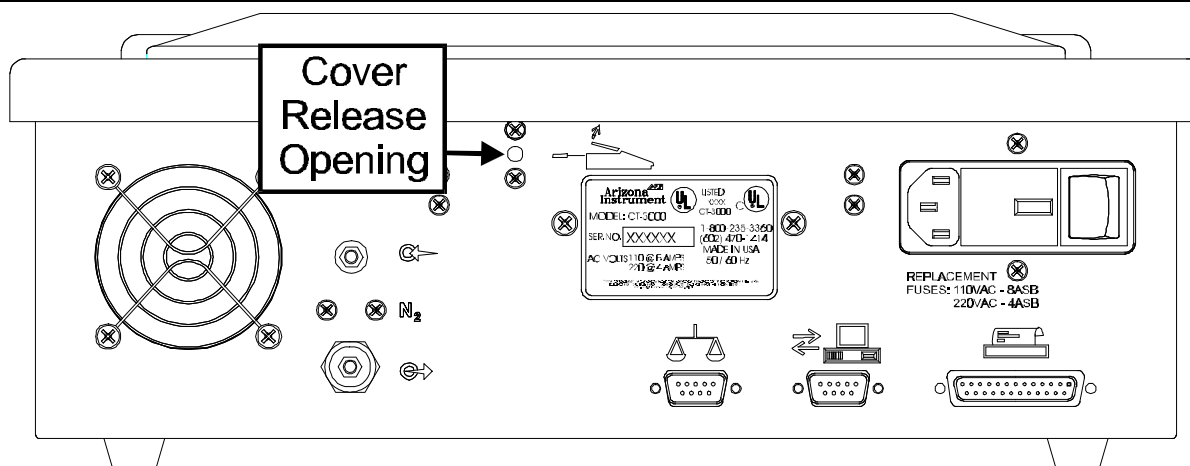

Figure 20 Cover Release Location
- 2 Insert a small probe into the hole at the back of the instrument. It is marked by a graphic symbol indicating the method of opening the top cover, see **Figure 20** on page 38. Push inward to release the safety catch, and lift the top cover up with your free hand. Remove it and put it in a safe place.
- 2 Insert a small probe into the hole at the back of the instrument, (see **Figure 20** on page 38). It is marked by a graphic symbol indicating the method of opening the top cover. Push inward to release the safety catch, and lift the cover up with your free hand. Remove it and put it in a safe place.
- 8 Insert a small screwdriver or other probe into the latch release hole at the back near the top of the instrument and remove the lid. See **Figure 20** on page 38 for release location. Store the lid in a safe place.